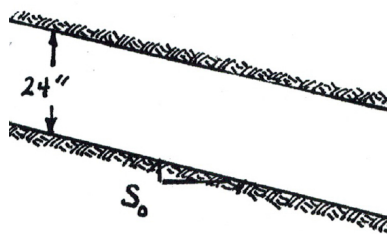

Figure 3: Sewer pipe sketch
- (A) $0.80 \text{ m}^3/\text{sec}$
- (B) $1.30 \text{ m}^3/\text{sec}$
- (C) $1.45 \text{ m}^3/\text{sec}$
- (D) $2.20 \text{ m}^3/\text{sec}$
- (E) $22 \text{ ft}^3/\text{s}$
- (F) $24 \text{ ft}^3/\text{s}$
- (G) $38 \text{ ft}^3/\text{s}$
- (H) $70 \text{ ft}^3/\text{s}$
6. A 24-inch diameter sewer pipe, with Manning's n of 0.015 is laid on slope $S_0 = 0.01$ as shown in Figure 3.